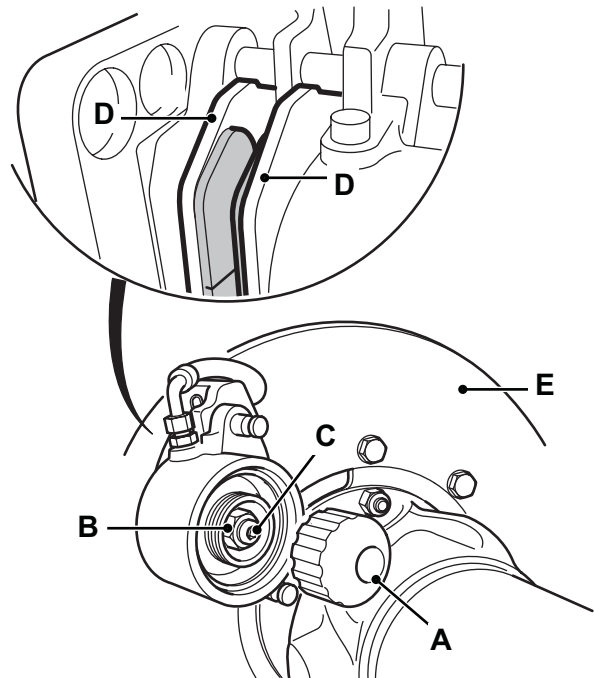

Fig 5.
- 3 Remove the screwcap **A**. → Fig 5. (□ 1-7).